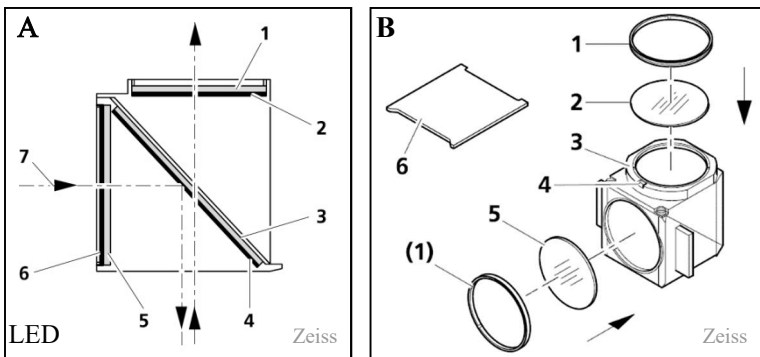

Fig. 48: Reflector module with filter configuration
A) The arrows in Fig. 48/A1 mark the path of the illumination beam or the imaging beam seen from the side. B) lists the different filters and parts that may be needed. The detector filter B /2 (RG665), a filter for the excitation light source (B /5 - normally not needed). B /6 is the mounting tool for the adapter rings (B /1). The beam splitter filter (A /3) is already mounted in this figure (see Fig. 48/B).
When purchasing the filters separately, independently of the original Zeiss reflector module frame (424931-0000-000), they have to be mounted into the reflector module FL according to the description in this chapter. The red filter RG665 (25 mm in diameter) is inserted on top of the reflector module and held by the adapter ring 1 (Fig. 48/B), so that the filter will show towards the camera of the IMAGING version.
The rectangular beam splitter filter is mounted in a 45° angle (Fig. 48/A3). The mirrored side has to show towards the LED light source. The coating faces outward (in relation to the reflector module) in the direction of the excitation filter (Fig. 48/B5 – not used in the standard setup).
The reflector module is inserted after turning it by 180° around its vertical axis (the reflector module is mounted with its excitation filter side Fig. 48/A7 facing to the front). It shall be inserted carefully into the upper spring elements. Then engage it firmly by gently pressing it down into the turret.